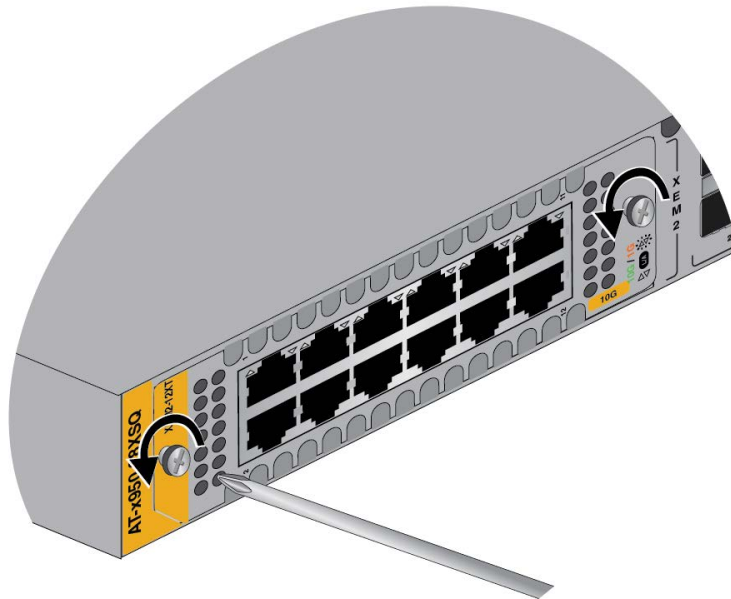

Figure 138. Loosening the Screws on the Ethernet Line Card
4. Use a #2 Phillips-head screwdriver to loosen the two screws on the faceplate of the card. Refer to Figure 138.